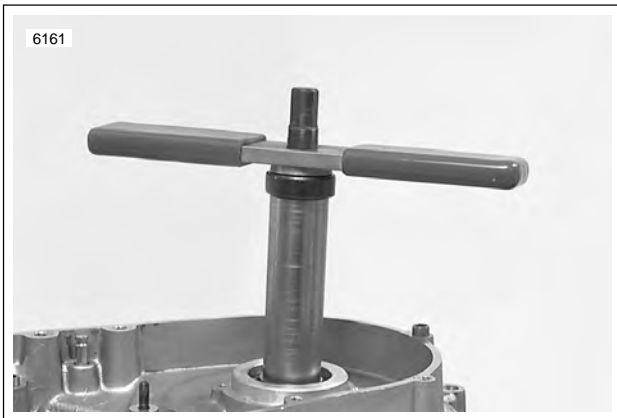

Figure 3-136. Installing Flywheel Spacer and Outer Bearing
- a. See Figure 3-136. Carefully place crankcase half over sprocket shaft so that it rests flat on inner bearing.